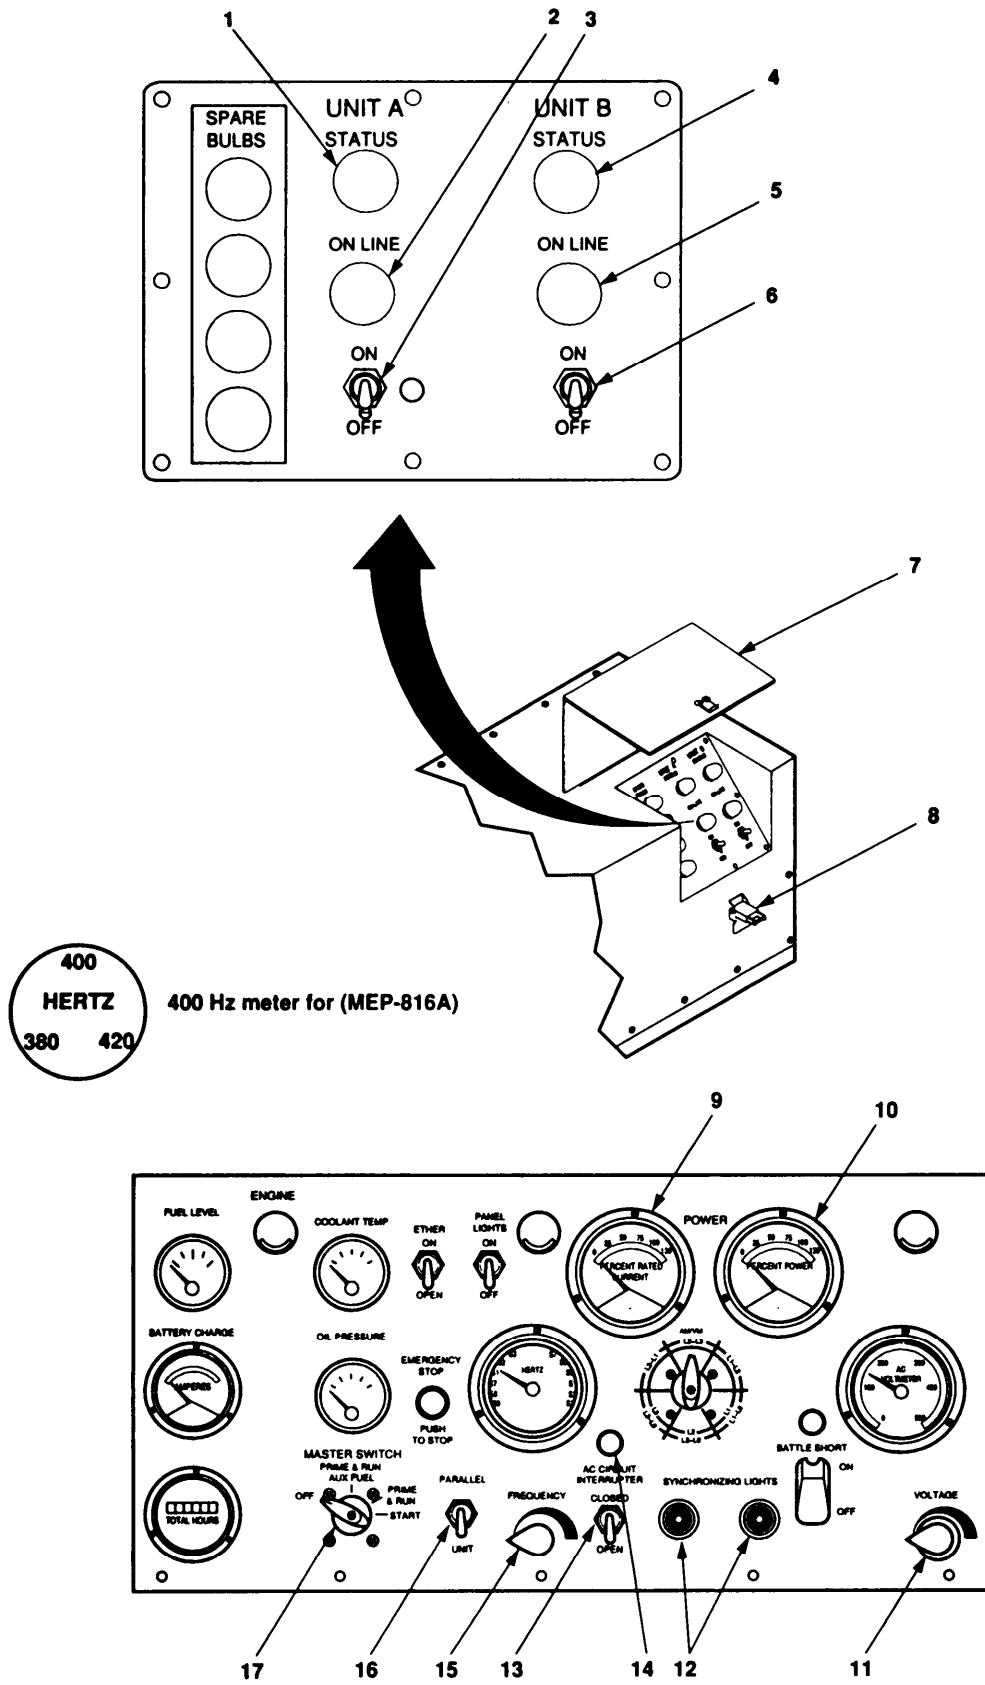

Figure 2-9. Load Transfer Operation.
- a. At the control panel of the generator set that is to be taken off line, position AC CIRCUIT INTERRUPTER switch (13) in the OPEN position until indicator (14) goes out.
- b. Set UNIT-PARALLEL switch (16) to UNIT.
- c. On operating generator set (generator 1), set UNIT-PARALLEL switch (16, figure 2-9) to PARALLEL.
- (1) Set UNIT-PARALLEL Switch (16) to PARALLEL. Both SYNCHRONIZING LIGHTS (12) should be going bright to dark together.